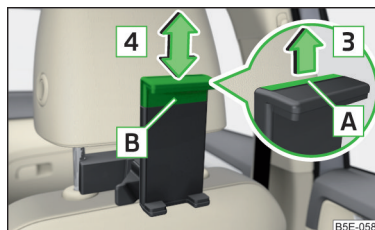

Fig. 105
- ▶ **To adjust the holder size**, pull out the securing tab in the direction of arrow and push the part in the direction of arrow to the desired position » Fig. 105.